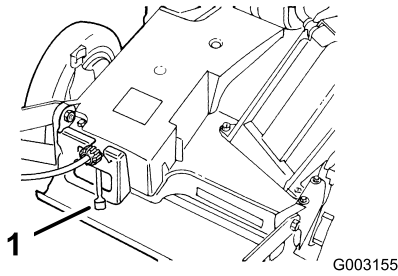

Figure 13
3. Move the ground speed control to the Neutral (N) position (Figure 13).
The lawn mower has 3 ground speeds. 1 is slow, 2 is medium, and 3 is fast. The ground speed control is located at the rear of the belt cover (Figure 13).